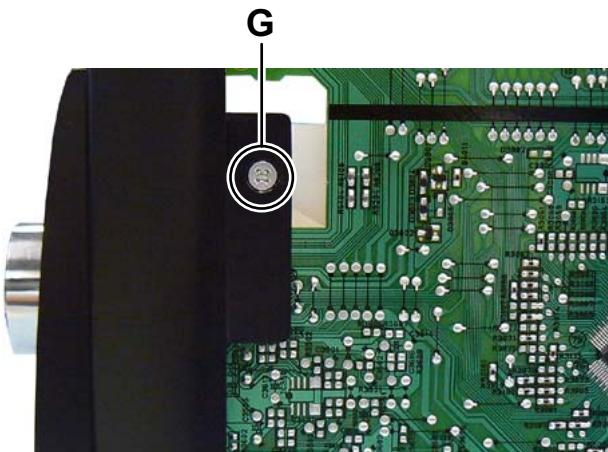

Fig.10
3.1.6 Removing the Mecha chassis (See Fig.10, 11)
- (1) Remove the two screws **G** attaching the both side of the Front panel. (See Fig.10)